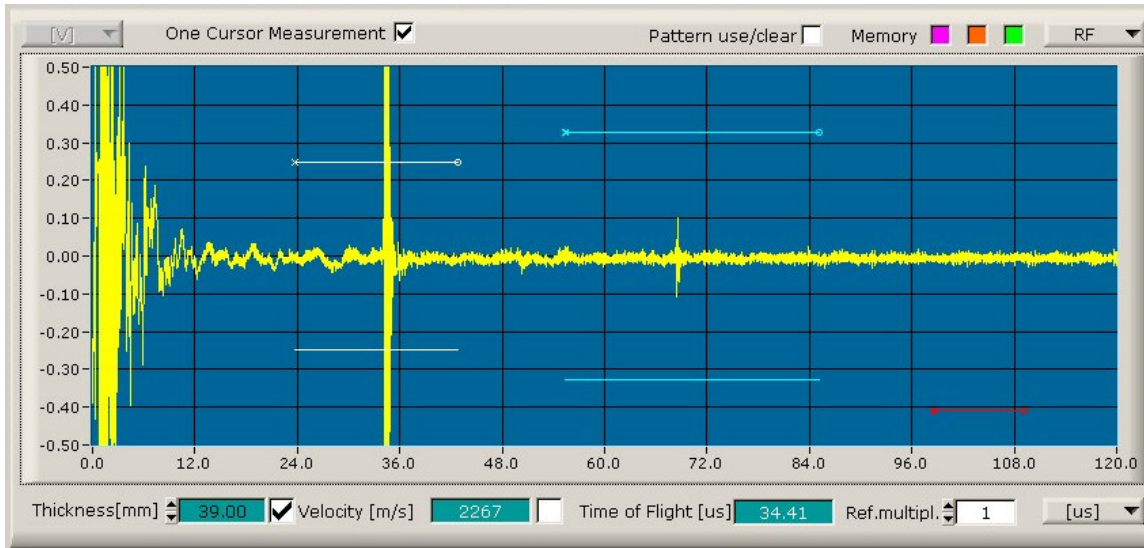

Fig.3 Measurement of parameters: time of flight, sound speed, distance, using PE method and one cursor
First such parameters as window, delay, gain – depending on the measured object must be set and naturally the mode (PE) and the function One Cursor Measurement. Now we must set the white gate(as on the Fig. 3 (Gate1 – white) on the signal reflected from the sample wall. Thickness must be set correctly. The result of the sound speed measurement is visible in the field Velocity. The measurement with one cursor is not so exact as with two, because it includes hardware delay (in electronics and transducer used).